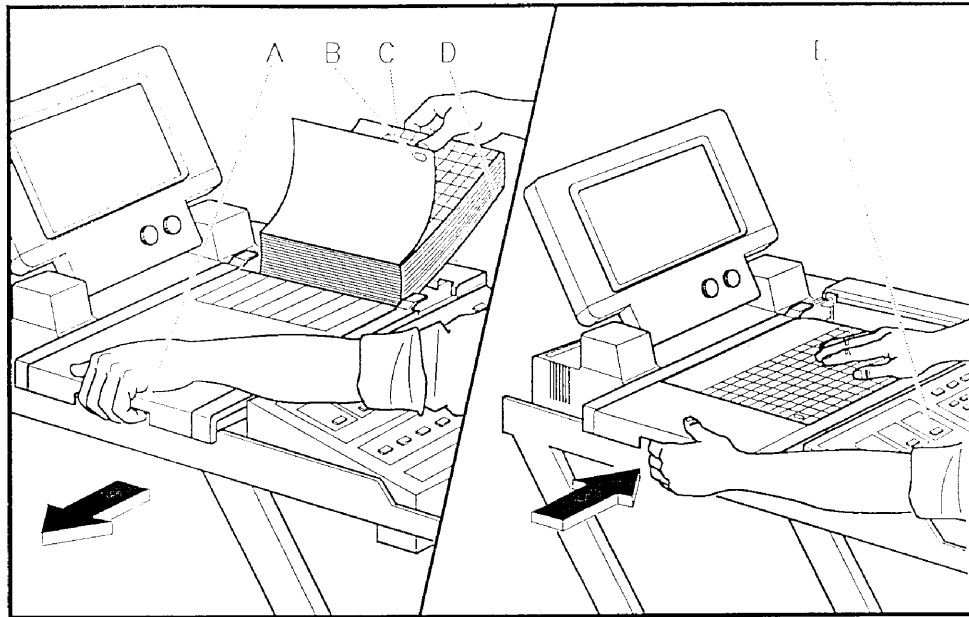

Figure 2-8. Loading the Paper.
4. Pull the free end of the paper back to the far end (latch end) of the top panel (see Figure 2-8).